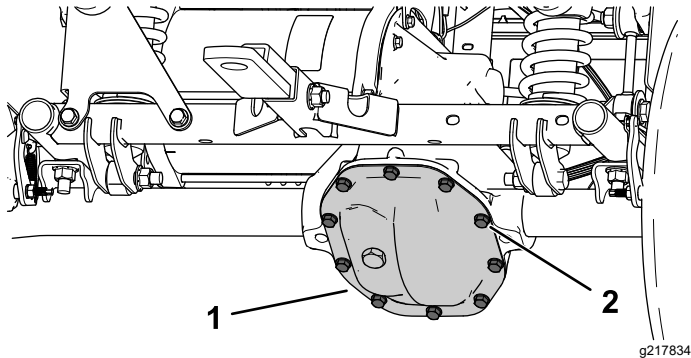

Figure 48
1. Align a drain pan under the transaxle cover (Figure 48).
2. Remove the bolts from the transaxle cover and drain the fluid completely (Figure 48).